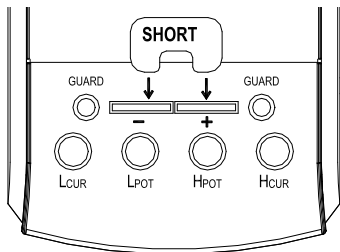

Figure 6
- a When using square terminals, insert the short socket to the square terminals and make $L_{CUR}/L_{POT}/H_{POT}/H_{CUR}$ terminals hang in the air (shown in figure 6);